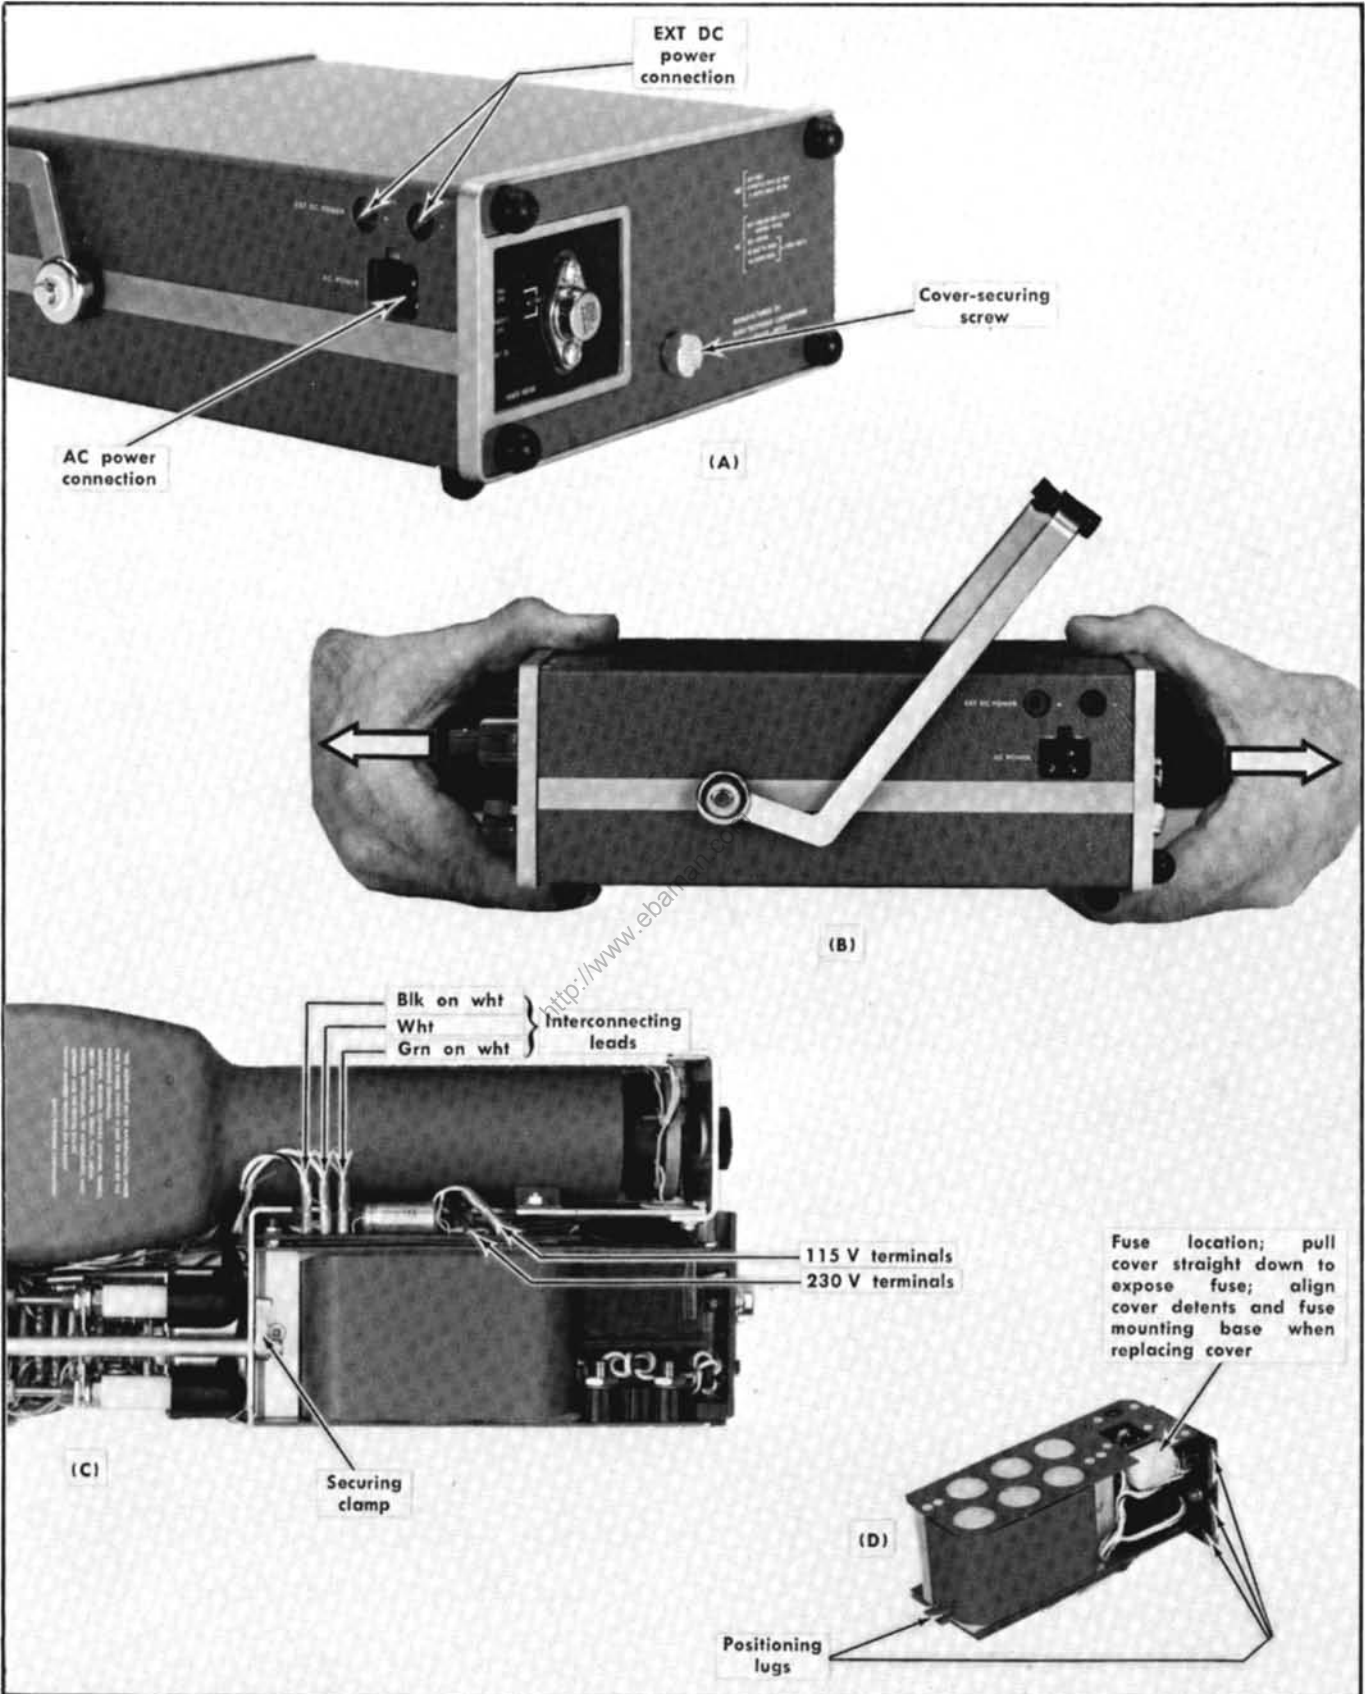
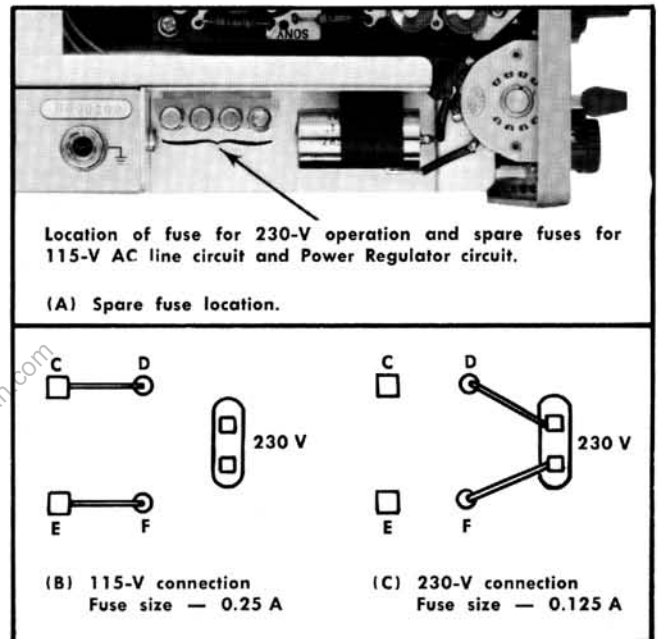

Fig. 2-2. Power Pack removal.
Fig. 2-3. Connections for 115 V and 230 V AC operation.
Remove the cover-securing screw from the back of the case. See Fig. 2-2(A).
Grip the front edge of the Oscilloscope with one hand, and the cover assembly with the other hand as shown in Fig. 2-2(B). Pull the cover assembly off the chassis, maintaining a firm grip on the front of the chassis.
Set the Oscilloscope chassis down on a flat surface. Disconnect the three interconnecting leads and release the Power Pack securing clamp. See Fig. 2-2(C).
**115/230 V Connection Changes.** Fig. 2-2(C) illustrates the location of the jumper wires and of the fuse. The two possible circuit arrangements, accompanying fuse sizes and the locations of spare fuses are indicated in Fig. 2-3. Reinstall the insulated tubing over the unused AC terminals.
**Power Pack Replacement.** Replace the Power Pack by reversing the removal procedure, insuring that the wire color code agrees with that written on the terminal mounting. See Fig. 2-2(C). Avoid pinching of fingers at the front panel when the Oscilloscope cover is replaced.